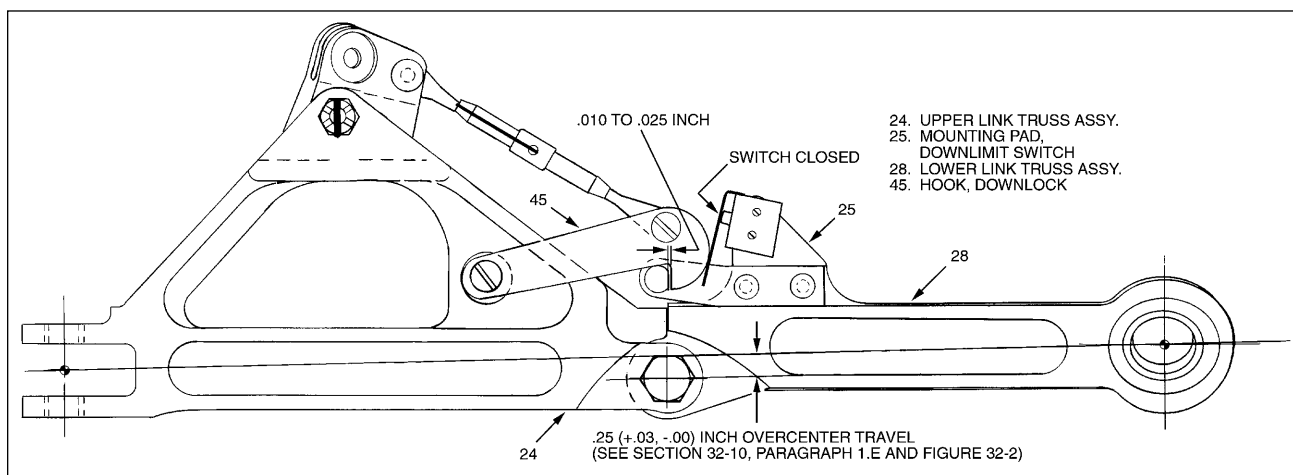

Figure 32-24. Adjust Main Gear Down Limit Switch
D. ADJUSTMENT OF MAIN GEAR DOWN LIMIT SWITCH (Refer to Figure 32-24.)